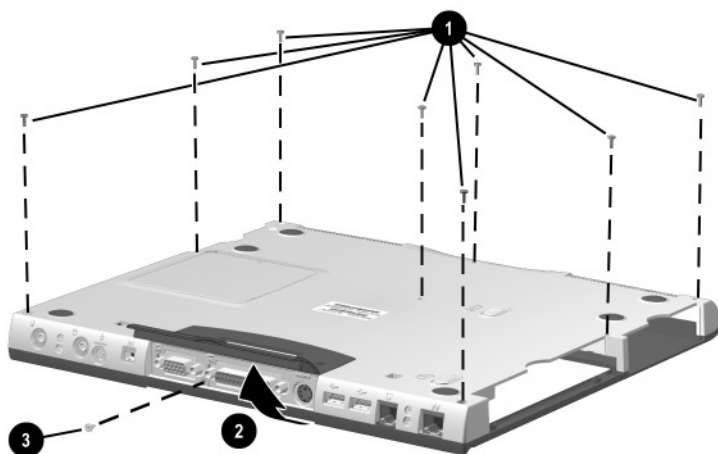

Figure 5-18. Removing the Top Cover Screws
3. Remove the eight black M2 \times 9 screws ❶ that secure the top cover to the base enclosure (Figure 5-18).
4. Open the parallel and serial connector cover ❷.
5. Remove the silver M2 \times 6.5 screw ❸ that secures the top cover to the base enclosure through the rear panel.